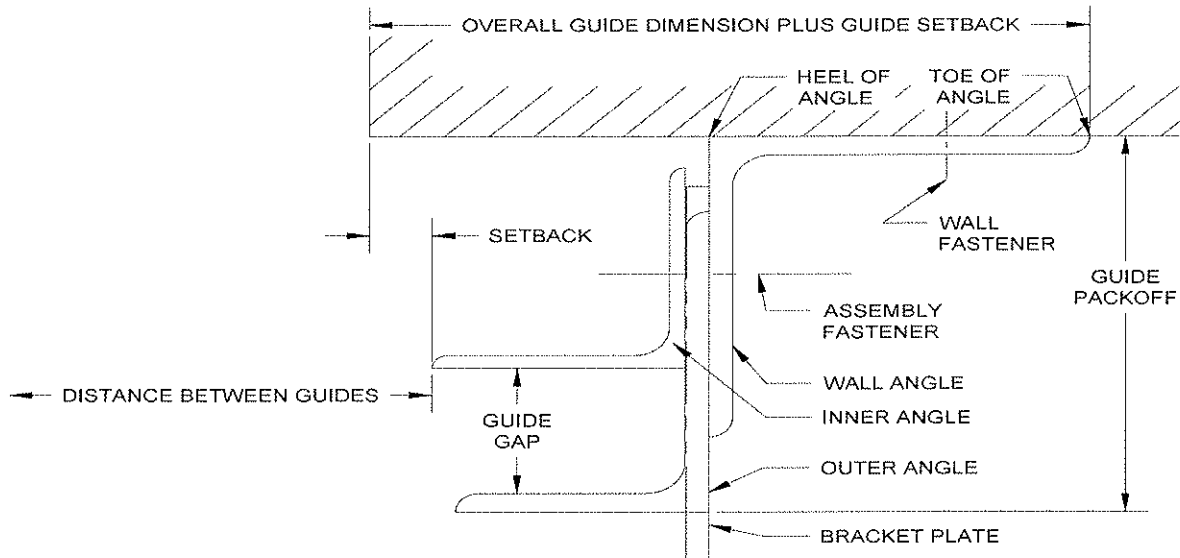

*Figure 4.1 - Opening Dimensions and Designations*
- c. Find the job construction drawings for the unit being installed and check the dimensions of the opening against those on the drawings. See **Figure 4.1** below.